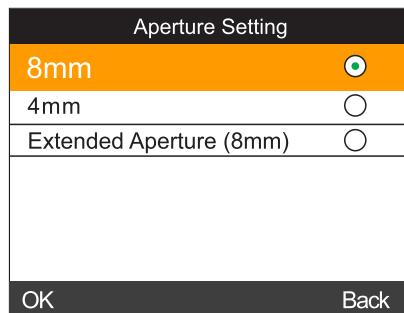

Figure 43 Aperture Setting
c) Select “Settings” - “Aperture Setting” to enter an interface shown in Figure 43. This interface is used for selecting measuring aperture. After changing the aperture, be sure to select the corresponding aperture in “ Aperture Setting ”, or it will cause the inaccuracy of the measured data. After changing the aperture, you need to re-perform white and black calibration, or it will also cause the inaccuracy of the measured data.